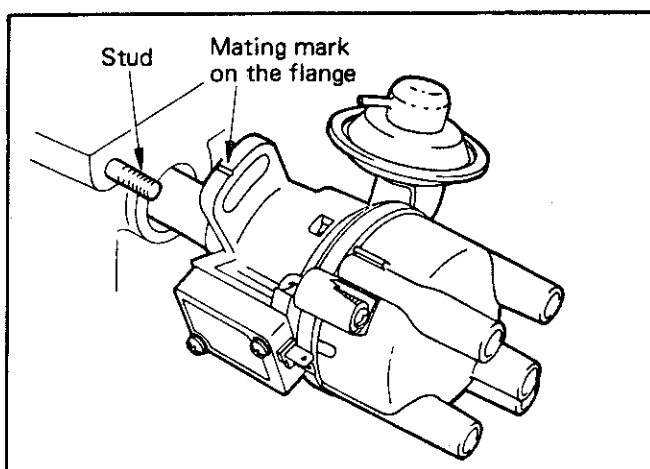

Fig. 6—Installing distributor
(3) Install the distributor in the cylinder head aligning the mating mark on distributor attaching flange with the centre of the distributor mounting stud (Fig. 6) and install the retaining nut.
(4) Connect the vacuum hose, high tension leads, control unit wiring harness and battery cable.
(5) Check and set ignition timing as detailed previously.